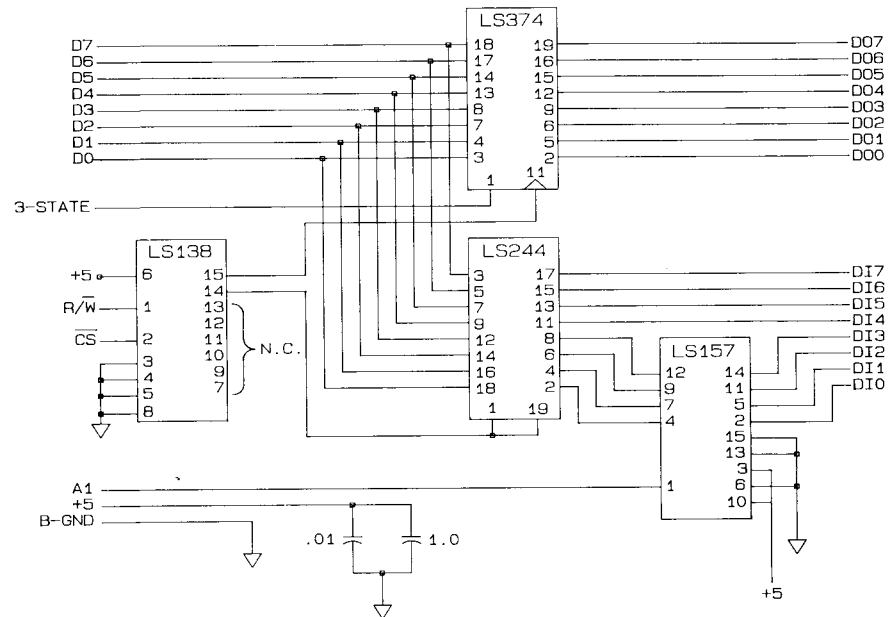

Figure 8-46. HP 44475A Schematic
2. Built in design for providing an 8-bit digital input port and an 8-bit digital output port. Components required to use the 8-bit input and output ports are listed in Table 8-27. A schematic diagram for the two ports is shown in Figure 8-46.